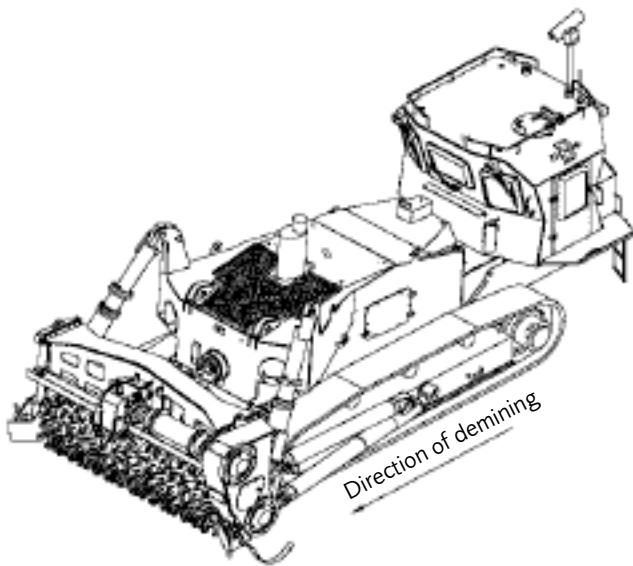

Fig. 1.1. The Mine-Guzzler.
The main parts of the vehicle are: undercarriage, cabin, power pack cassette, mounting unit and demining unit, *Fig. 1.1*. The vehicle can be broken down into its main parts (see item 1.2–1.6) to simplify repairs and transportation.